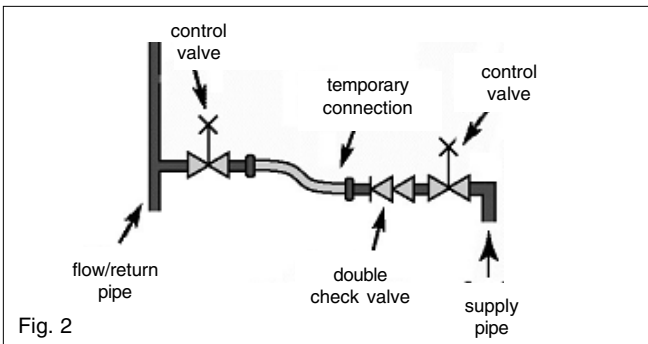

Fig. 2
3.1 HOW TO TOP-UP THE SYSTEM PRESSURE (fig. 2 & 3)
- Locate the filling valve connections (usually beneath the boiler, see fig. 2).